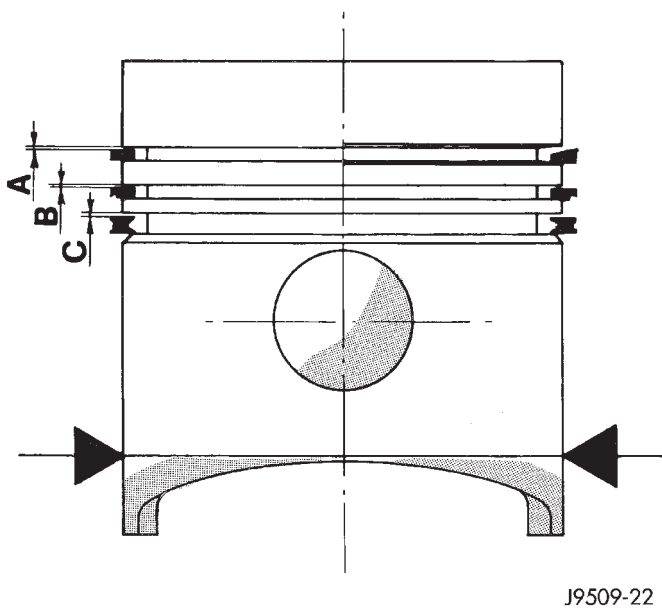

Fig. 57 Piston Ring to Groove Clearance
- (2) If ring gaps exceed dimension given, new rings or cylinder liners must be fitted. Keep piston rings in piston sets.
- (3) Check piston ring to groove clearance (Fig. 57). Top compression ring gap .08 to .130mm (.0031 to .0051 in.). Second compression ring gap .070 to